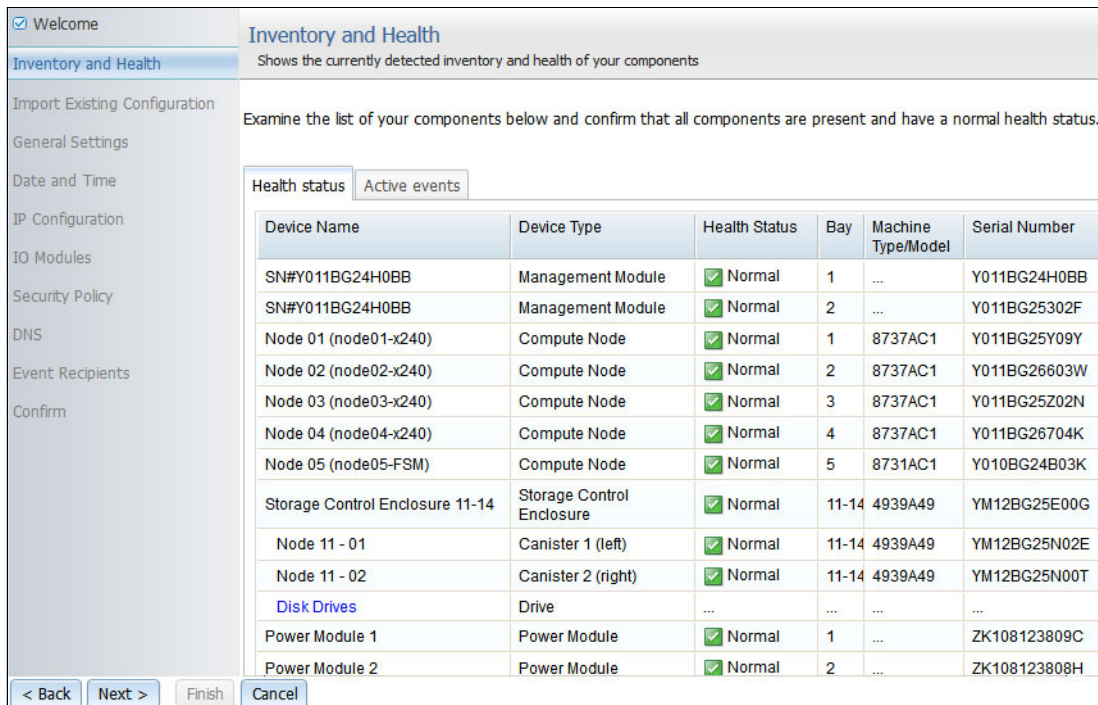

Figure 4-8 Inventory and Health window
a. The Inventory and Health window shows the detected components and their current health status, as shown in the Figure 4-8. Click **Next**.